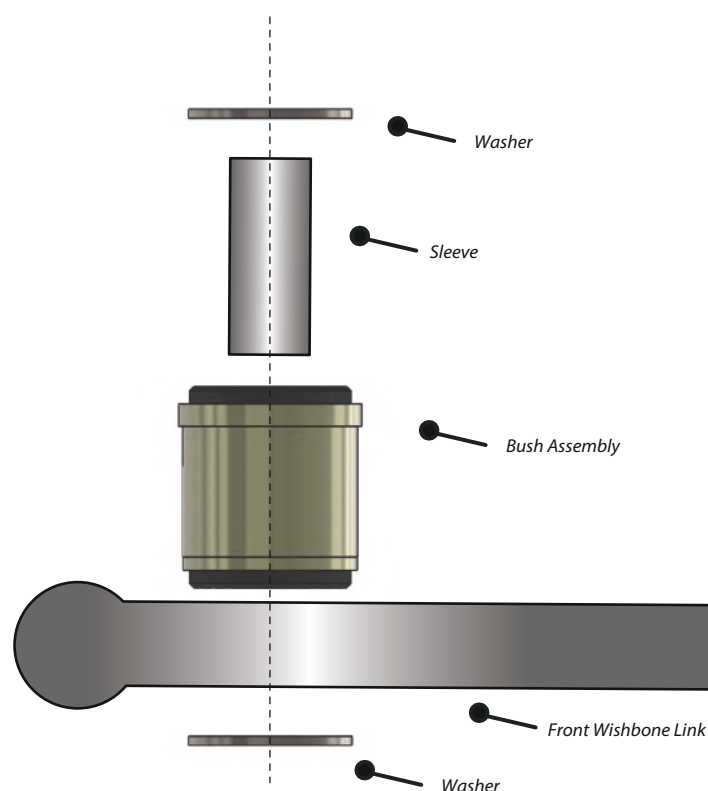

Figure 1
3. Press the outer shell and bush assembly into the arm as shown in Fig 1. This can be in either direction as the bush is centred in the arm either way.